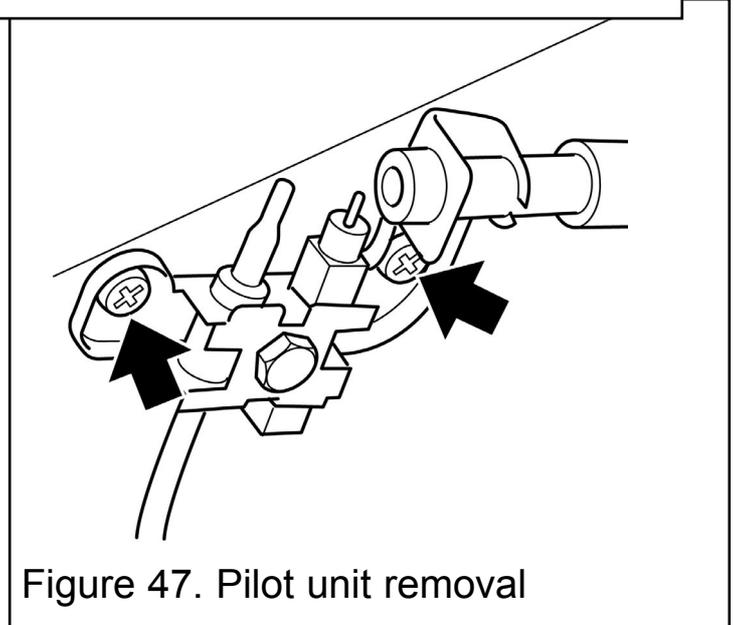

Figure 47. Pilot unit removal
6. Remove the two screws securing the pilot unit . See figure 47.